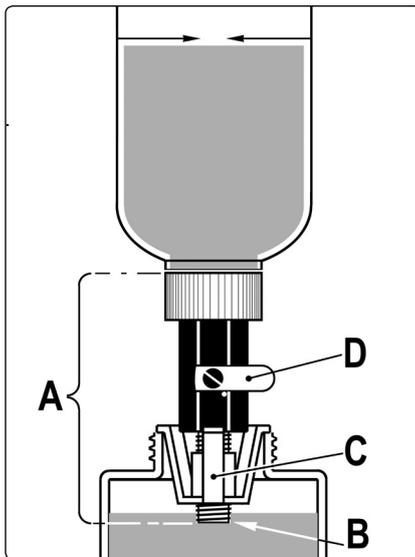

fig.1
- 5.1.3. Remove the cap assembly (fig.1-A) from the replenishment bottle and invert it within the neck of the reservoir as shown in fig.1. The threaded outlet 'B' must be immersed in the brake fluid. If it is not, rotate the three legged moulding 'C' clockwise towards the valve 'D' until sufficient thread is exposed to allow the outlet to be immersed in the brake fluid.
- 5.1.4. Ensure the valve is closed as shown in fig.1-D.
- 5.1.6. Place the bottle into the neck of the vehicle brake fluid reservoir as shown in fig.1. and open the valve. As the brakes are bled the fluid level in the reservoir will begin to drop and expose the bottle outlet. Brake fluid will begin to flow from the replenishment bottle. Once the level in the reservoir has risen sufficiently to cover the outlet the flow will automatically stop.